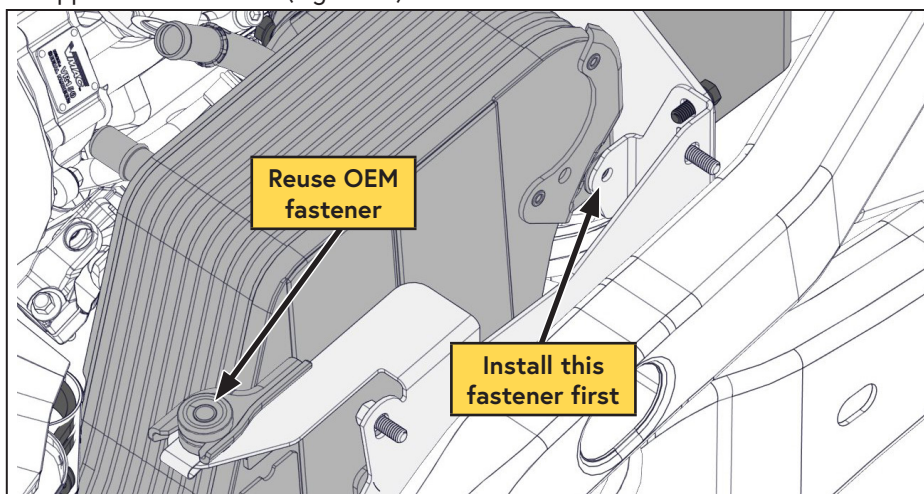

Figure 87 — Installing the CAC
- Secure the CAC to the CAC relocation bracket. Install the fastener nearest the firewall first using a VMAC supplied fastener. Reuse the OEM fastener in the upper mount location (Figure 87).